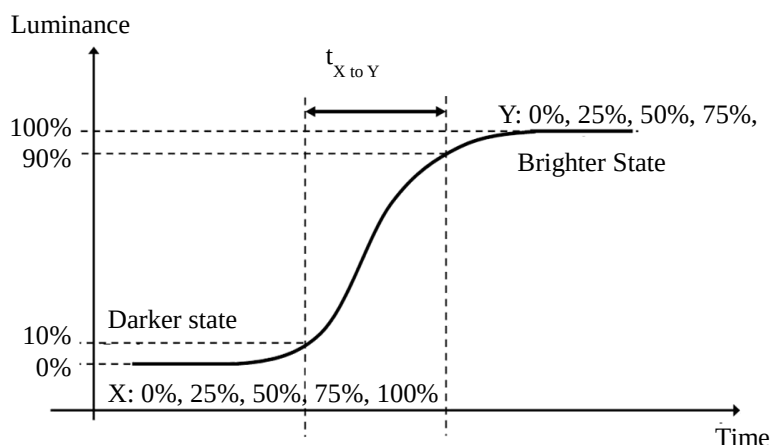

Fig. 6.4 The definition of $t_{X \text{ to } Y}$
- (3) Response time T_L is defined as the average transition time in the response time matrix. The table below is the response time matrix in which each element $t_{X \text{ to } Y}$ is the transition time from luminance ratio X to Y . X and Y are two different luminance ratios among 0%, 25%, 50%, 75%, and 100% luminance. The transition time $t_{X \text{ to } Y}$ is defined as the time taken from 10% to 90% of the luminance difference between X and Y ($X < Y$) as illustrated in Fig.6.4. When $X > Y$, the definition of $t_{X \text{ to } Y}$ is the time taken from 90% to 10% of the luminance difference between X and Y . The response time is optimized on refresh rate $F_r = 60\text{Hz}$.